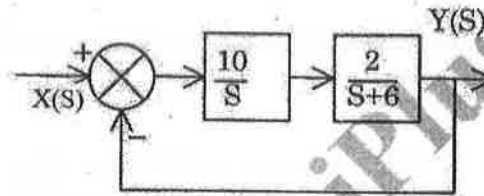

Fig. 5
- (b) (i) For the system shown in fig. 5. find the effect of PD controller with $T_d = 1/10$ on peak overshoot and settling time when it is excited by unit step input.